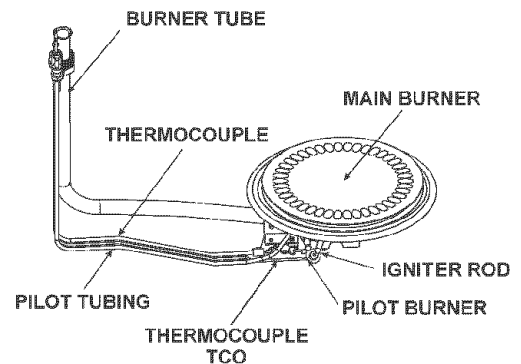

FIGURE 1.
- Carefully plan the place where you are going to put the water heater. Correct combustion, vent action, and vent pipe installation are very important in preventing death from possible carbon monoxide poisoning and fires. See Figure 1.
Should you choose to apply an insulation blanket to this heater, you should follow these instructions (see Figure 1 for identification of components mentioned below). Failure to follow these instructions can restrict the air flow required for proper combustion, potentially resulting in fire, asphyxiation, serious personal injury or death.